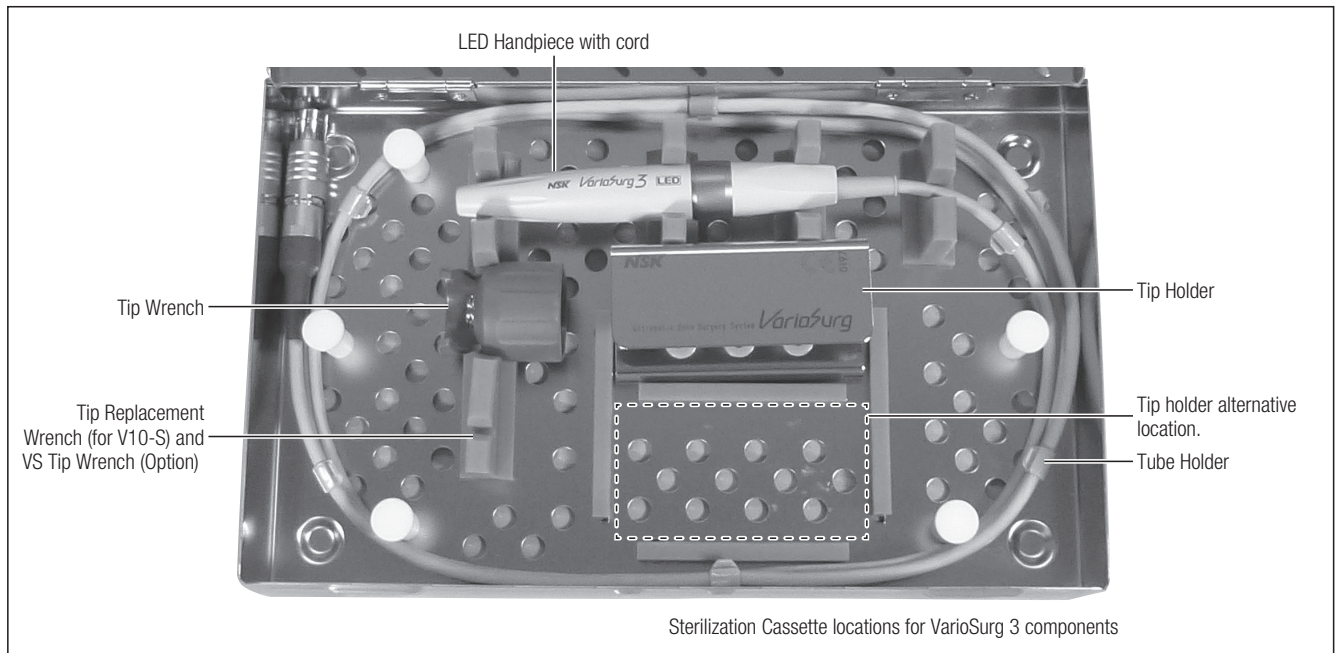

Fig. 25
- 1) Place the Handpiece and Tip Wrench in the Sterilization cassette. (Fig. 25)